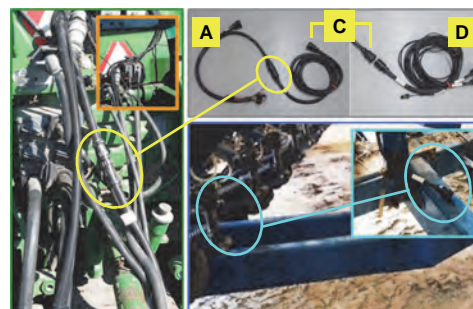

Figure 2a: Interface cables connected
- a. Install extension cable(s) **C** between interface cable **A** (routed from the cab) and planter/whisker switch cable **D** (Figure 2a, left image with inset and top images).
- b. Disconnect the planter’s row unit clutch harness from any existing controller cabling and reconnect it to the branch cables of cable **D** (Figure 2a, lower image with inset—only one planter connector shown).